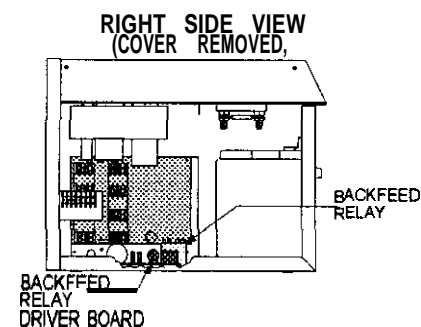
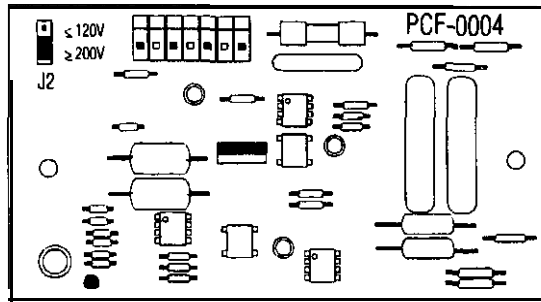

Figure 10
Figure 12
- 302-1. Find the **backfeed** relay behind the batteries on the bottom on the left side of the unit. (See Figure 10.)
- 302-5. Locate the **backfeed** relay driver board next to the relay. (See Figure 10 above.) Move the jumper at J2 to the $\geq 200V$ position after changing the AC input to 208 or 240. (See Figure 12 on the next page.)